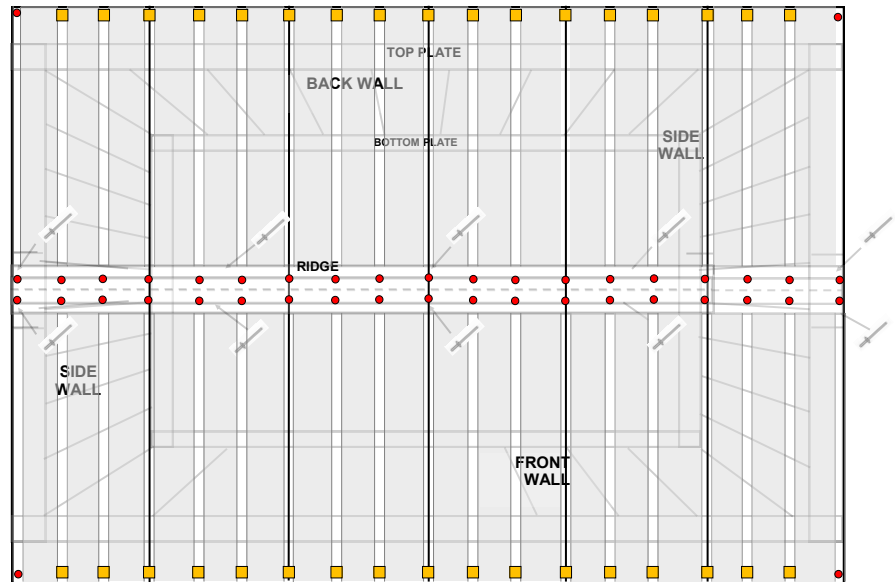

fig.2
- Rivet the 2 ridge flashings together using 4 rivets, so total flashing is 3.050m long. Rivet the Ridge Flashing to the centre of the roof using 10 x rivets as shown (fig.2).